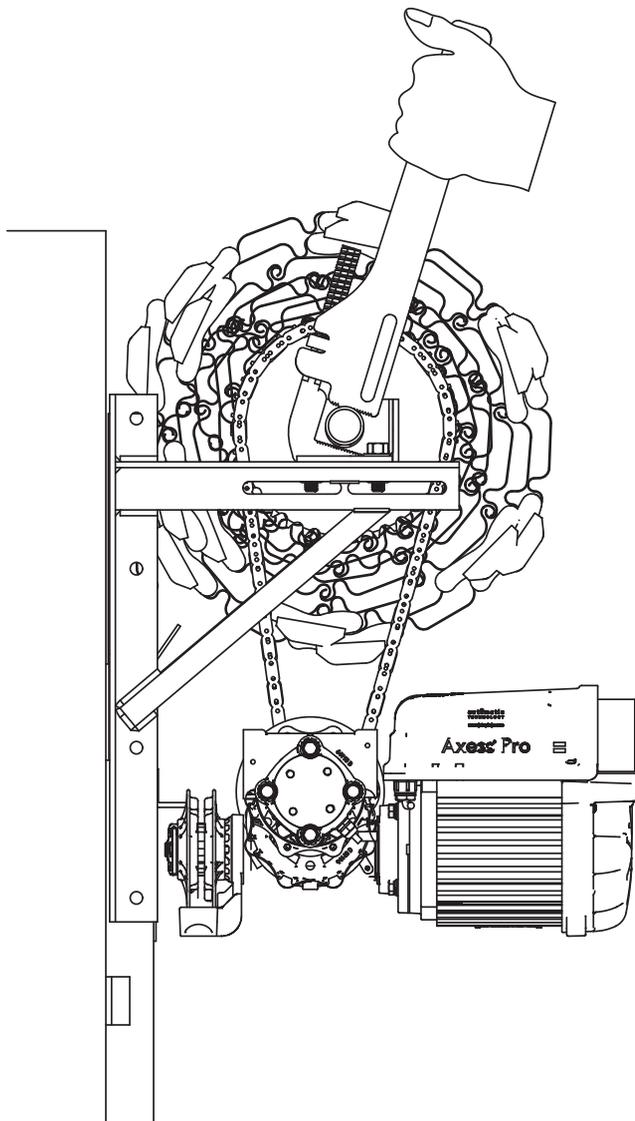

Fig: 2.7.1
- With pipe wrench Stillson grip axle securely or insert M.S. tommy bars (min. 450mm long x 12mm dia.) into the holes provided in the plain (non-gear) end of the drum spindle Figure. 2.7.1.